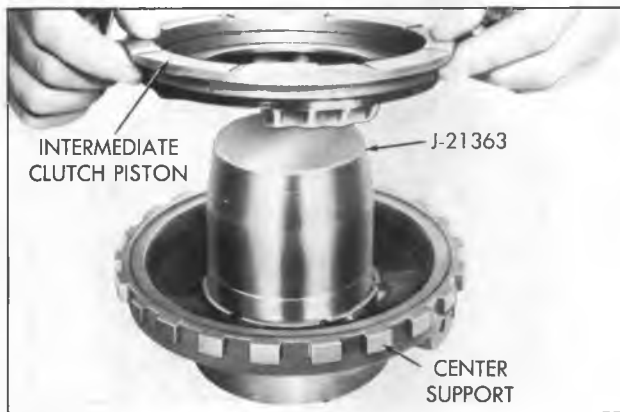

Figure 93—Installing Intermediate Clutch Piston
2. Install inner seal protector (J-21363) on center support hub, install piston, indexing spring pockets of piston into cored areas of center support (fig. 93).
3. Install three (3) release springs into counterbores of piston. Space equally during assembly.